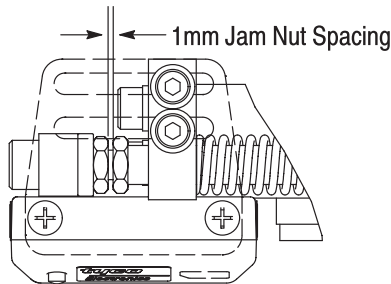

Figure 5
9. Place the second jam nut on the socket head cap screw leaving a 1mm gap between the jam nuts. See Figure 5.